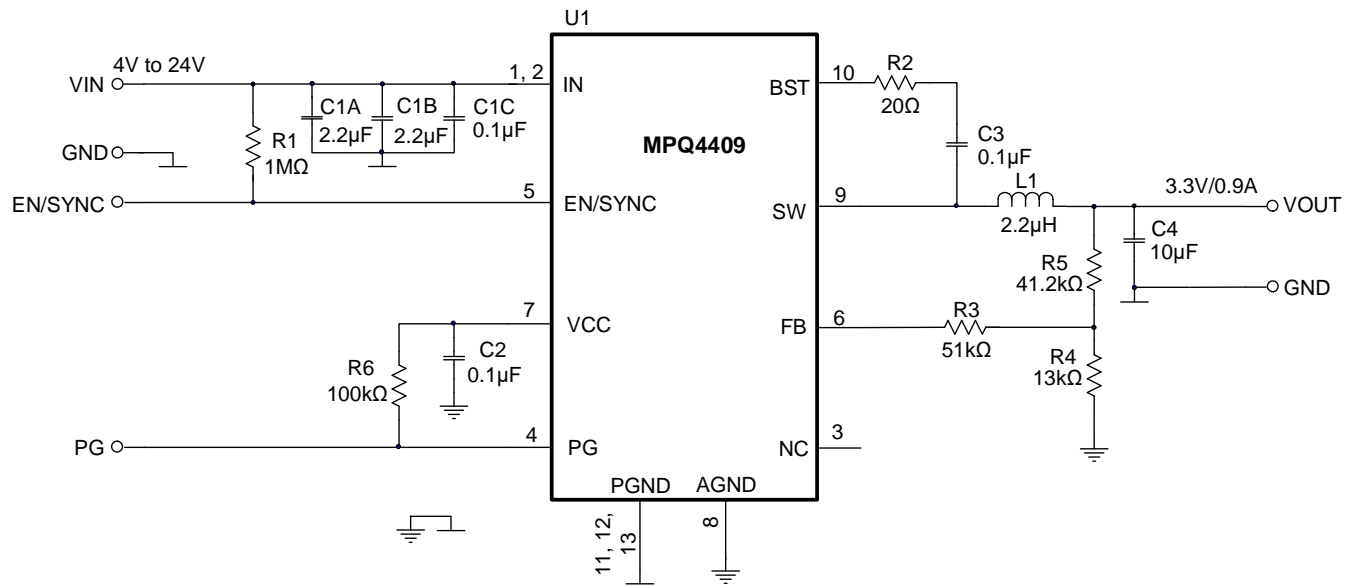

Figure 8: Typical Application Circuit, $V_{OUT} = 3.3V$, $I_{OUT} = 900mA$
- 8) The recommended layout is based on Figure 8.